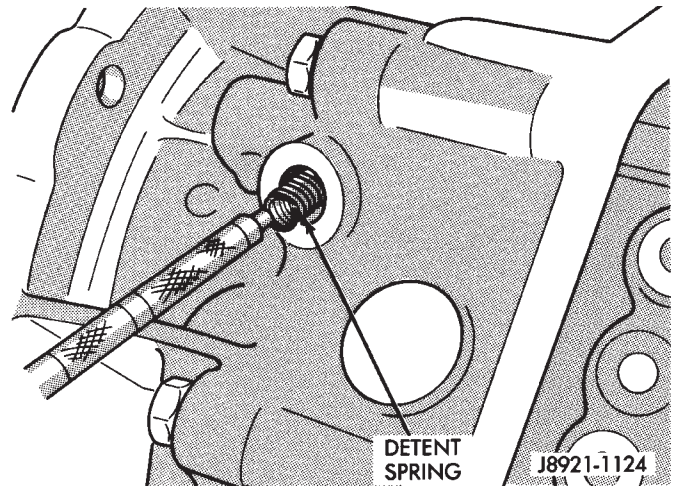
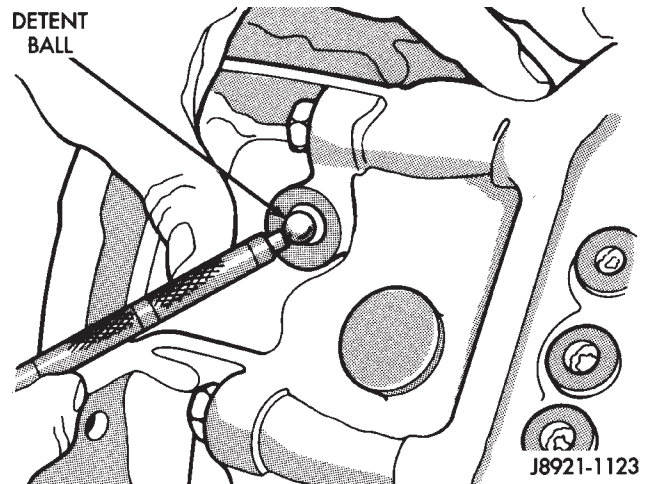

Fig. 21 Remove Detent Spring
Fig. 22 Remove Detent Ball
- (9) Remove detent ball spring and ball with pencil magnet (Fig. 21), (Fig. 22).